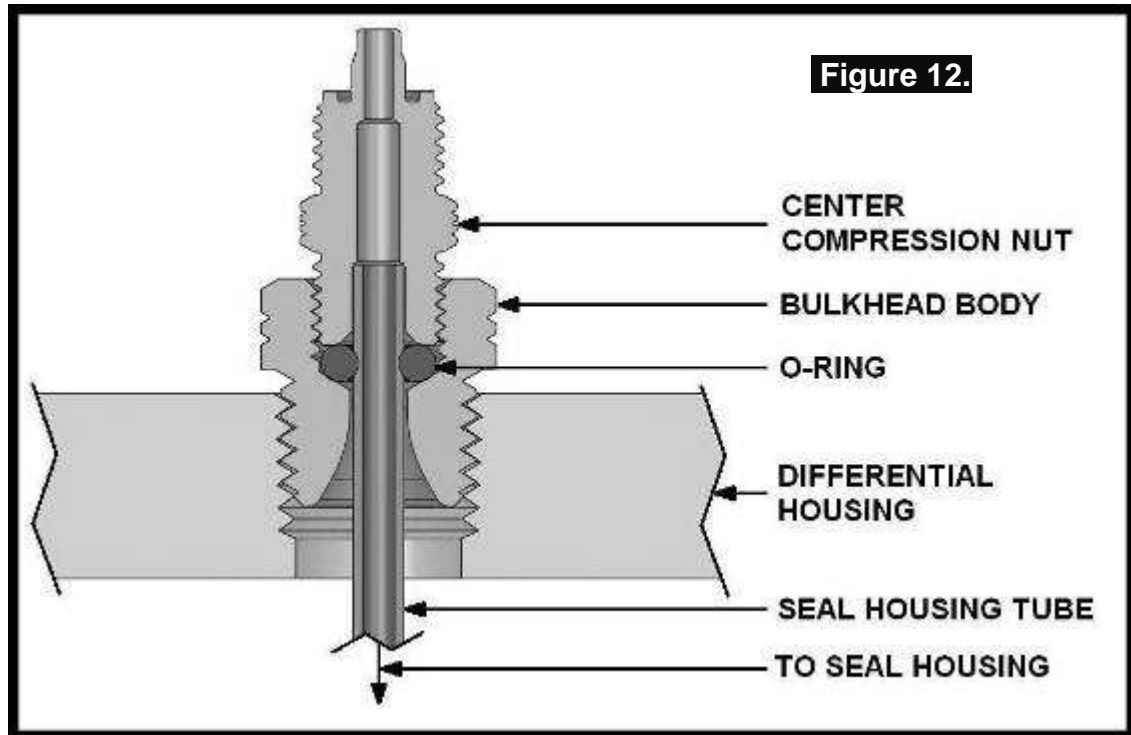

Figure 11.
- ☐ Without using sharp, jagged tools such as pliers (your hands are the best tool for this job), bend the seal housing tube on the outside of the housing to approximate the finished profile. This will allow the tube to be trimmed to a length that would allow it to protrude from the bulkhead fitting. (Fig. 11.)